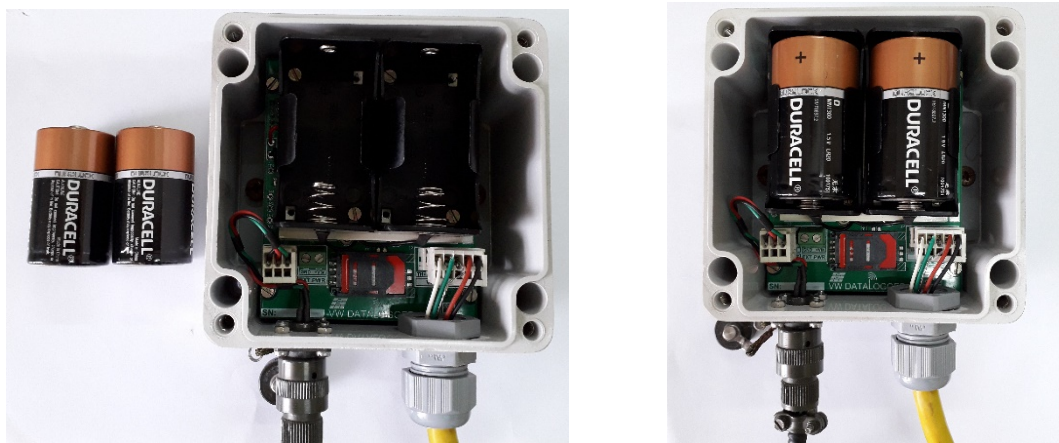

Figure 10-1: Battery replacement for Alkaline battery option
- 3 Hold datalogger in the position as shown in Figure 10-1(left). Open the top cover.
- 4 Replace batteries (Alkaline/Lithium) with the new one as shown in Figure 10-1(right) and close the top cover.